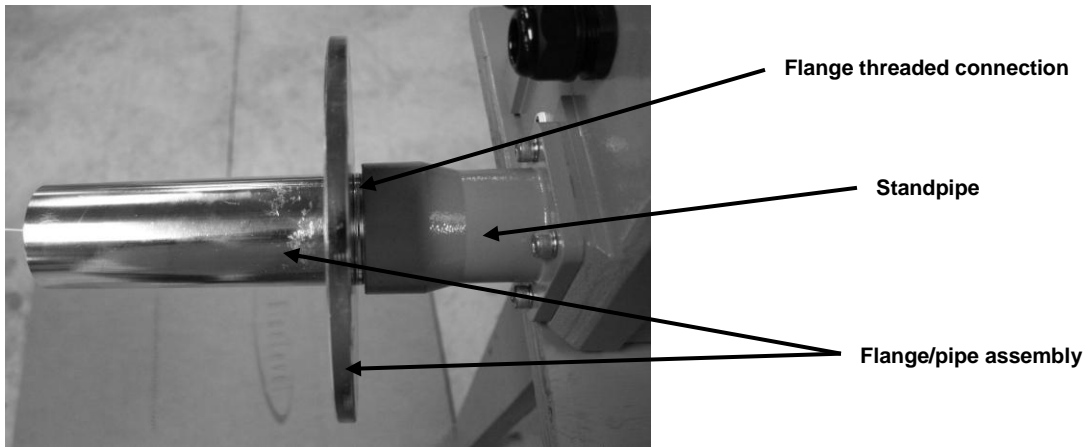

Figure 13
2. Remove flange/pipe assembly by unthreading it from the standpipe. Refer to Figure 13.